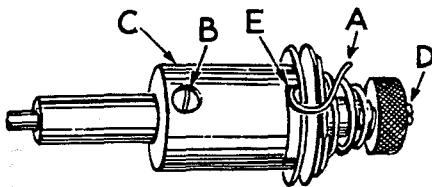
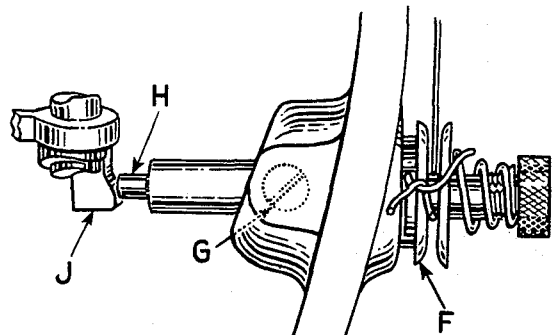
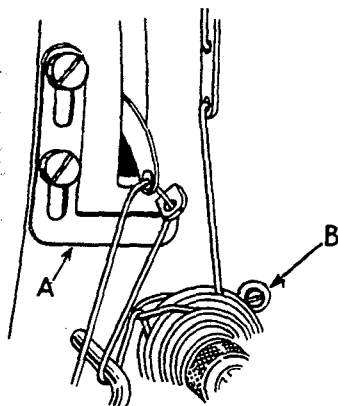

Fig. 20
Fig. 21
Fig. 22
Test check spring tension (A, Fig. 20). There should be enough tension to insure a good returning snap when spring is depressed and released. Should it require adjusting, loosen set screw in the head on right side of tension post (G, Fig. 21) and remove tension post assembly. Partially loosen tension post set screw (B, Fig. 20) in tension post socket (C). Holding the socket in the left hand turn the tension post (D) counterclockwise with the right hand until the check spring moves away from the upper stop (E) and has no tension
The frame take-up eyelet (A, Fig. 22) should be set at its lowest position.
The tension assembly should be located in bed from front to back, so that when the presser foot is raised to its highest position, the tension discs (F, Fig. 21) are opened just enough to allow the thread to pass through the discs freely.
To position the tension assembly, see that set screw in bed (G, Fig. 21) is loose and tension assembly adjusting screw (B, Fig. 22) is screwed down to the bed.
Lift the presser foot hand lifter to its highest position; with the left hand grasp the thread and pull it through the tensions, with the right hand push tension post deeper into the machine until release pin (H, Fig. 21) pressing against the presser bar connection (J) has opened the tension discs just enough to allow the thread to pull through freely. Re-tighten set screw (G), turn tension assembly adjusting screw (B, Fig. 22) counterclockwise until it contacts the flange of the tension post socket.